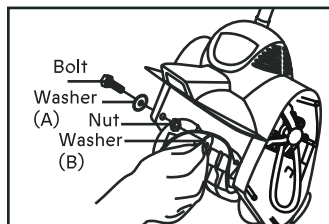

Fig. 13
To install the new paddle, place the washer (A) back onto the bolt (removed in step 1) and insert the bolt so that it protrudes slightly into the housing of the unit. Thread the nut and then the other washer (B) onto the bolt. Fit the new paddles onto the end of bolt and tighten the bolt (Fig. 13).